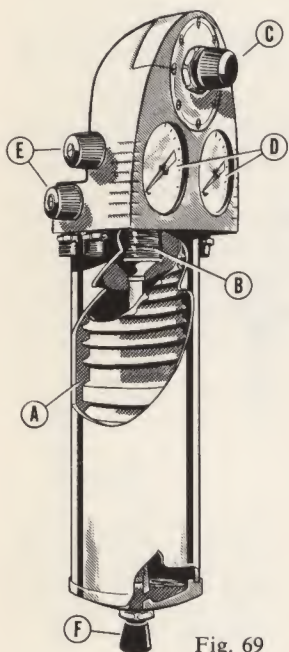

Fig. 69
82. What are the principal parts of an air transformer? (Fig. 69)